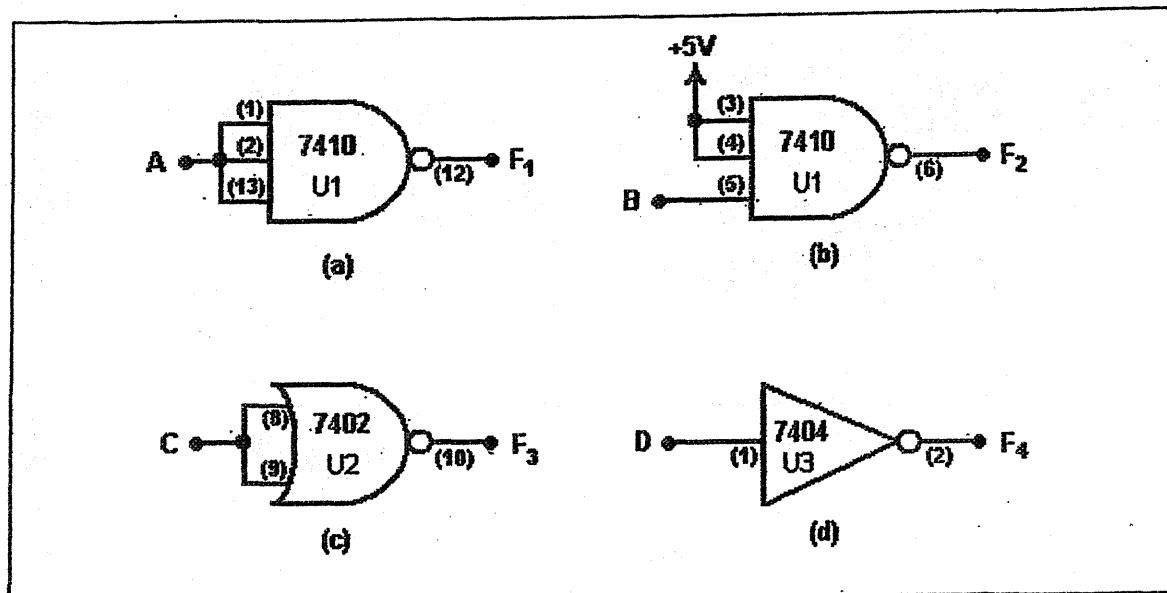

Figure 1.2
- 2) Analyze the logic circuits shown in figures 1.2, 1.3, and 1.4 to determine their Boolean logic function.